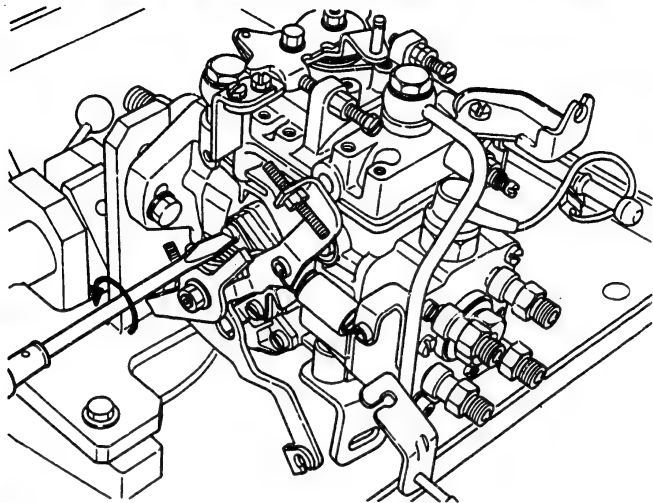

Fig. 168 Removing the screws
2. Remove the two screws (282) to remove the manual-cold start device from the injection pump. (Fig. 168)